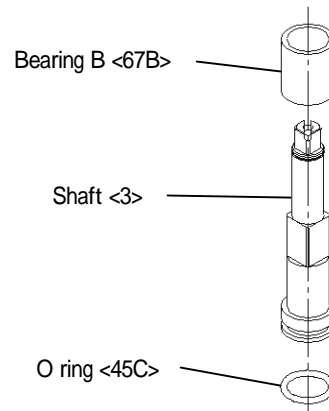

Fig.9
- (2) Lubricate an O-ring and a bearing, and assemble them with the shaft (Fig.9).